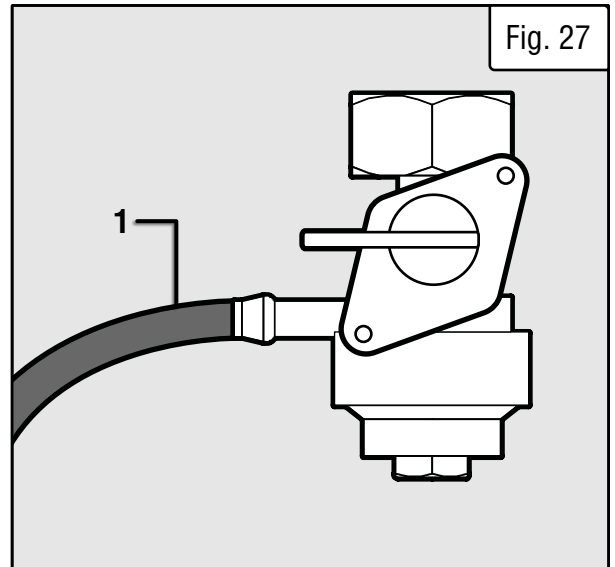

Fig. 27
3. Locate the fuel line (Fig. 27 - 1) between the fuel valve and the carburetor. Disconnect the fuel line from the fuel valve.